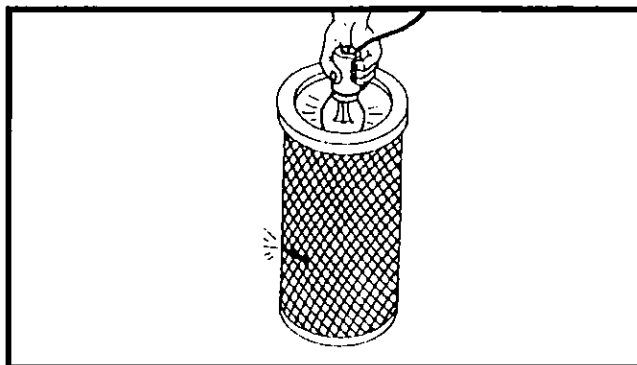

Figure 5-4 Inspecting Element for holes/tears
1. Examine the new or cleaned element for torn or damaged pleats, bent end covers or liners and gaskets. It is recommended to use an appropriate light to check the condition of the element (Figure 5-4).